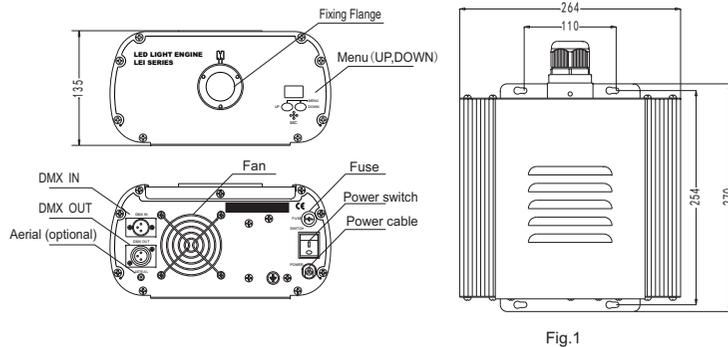

Fig.1
2. Installation dimension of light engine(see Fig1):